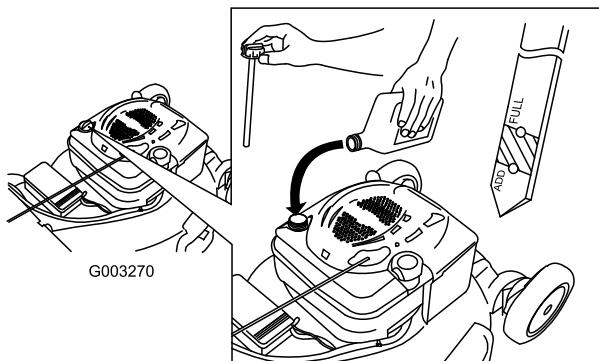

Figure 9
1. Remove the dipstick (Figure 9).
2. Slowly pour oil into the oil fill tube until the oil level reaches the Full line on the dipstick (Figure 9). **Do not overfill.** (Max. fill: 20 oz. (0.59 l), type: SAE 30W